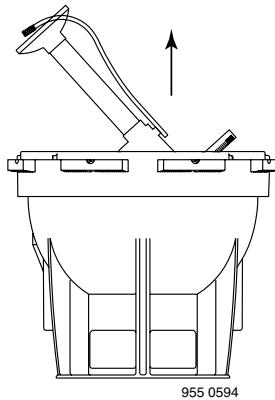

Figure 6
4. Lift old internal assembly out of tank. (Figure 6)